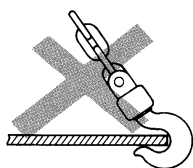
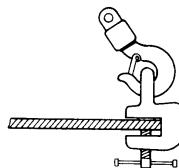

Figure 4 - Incorrect Attachment
Figure 5 - Correct Attachment
5. When hooking, the load must be applied squarely to the center of the hook and the hook must not come loose during operation. NEVER USE THE HOOK DIRECTLY ON A LOAD (See Figure 4). Use the attachments as shown in Figure 5.